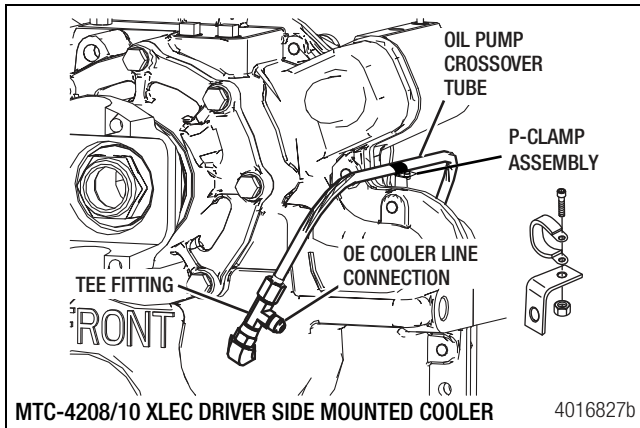

Figure 9.5
1. Install the tee fitting onto the front case idler bearing oil supply port elbow fitting. Tighten the tee fitting to 20 lb-ft (54 Nm). Figure 9.5.
2. Install the new oil pump crossover tube to the tee fitting on the front case half. Tighten the tube nut to 20 lb-ft (27 Nm). Figure 9.5.
3. Reconnect the OE chassis cooler return hose to the tee fitting on the front case half at the idler front bearing position. Tighten the hose nut to 40 lb-ft (54 Nm). Figure 9.5.
5. Remove the housing capscrew and install through the angle bracket as shown in Figure 9.5. Apply Loctite® 242 to the first 3 threads, reinstall, and tighten to 60-75 lb-ft (81-102 Nm). Place the P-clamp around the oil pump crossover tube and, using the supplied socket head bolt and lock nut, attach it to the angle bracket and tighten to 8-10 lb-ft (11-14 Nm).